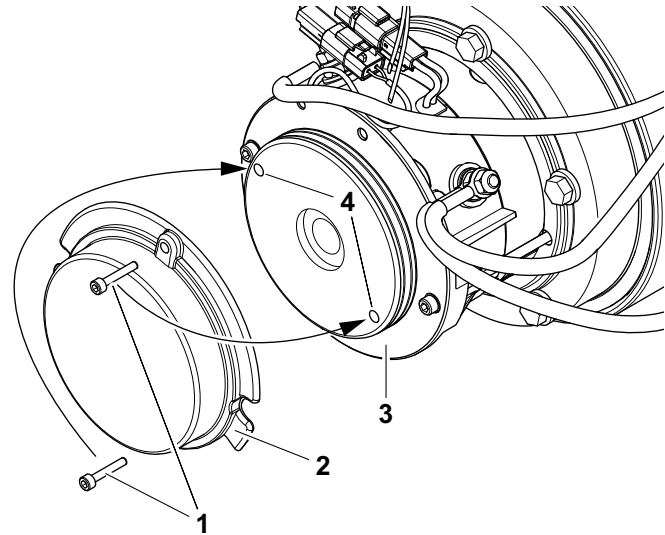

Figure 3-21. Brake - Manual Disengage.
(See Figure 3-21.)
2. Remove the **two cover bolts (1), and the cover (2)**, from the back of drive motor unit.
3. Insert the **cover bolts (1)** into the **two disengage holes in the brake housing (4)**, see Figure 3-21., Brake - Manual Disengage.
4. Tighten down the **cover bolts (3)** in the disengage holes and the brake on that drive motor will disengage.
7. Reinstall **cover (2)** - before installation check the **cover gasket (3)** for damage, replace if necessary.